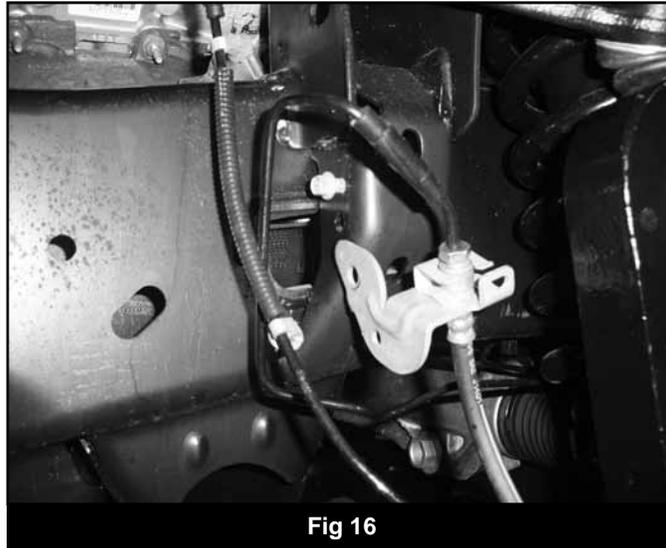

Fig 16
43. Install the brake line relocation brackets at the frame (Fig 16). Attach with OE hardware to frame, attach brakeline retaining clip with 1/4" nut and washer to the relocation bracket. Tighten to 15 ft-lbs.